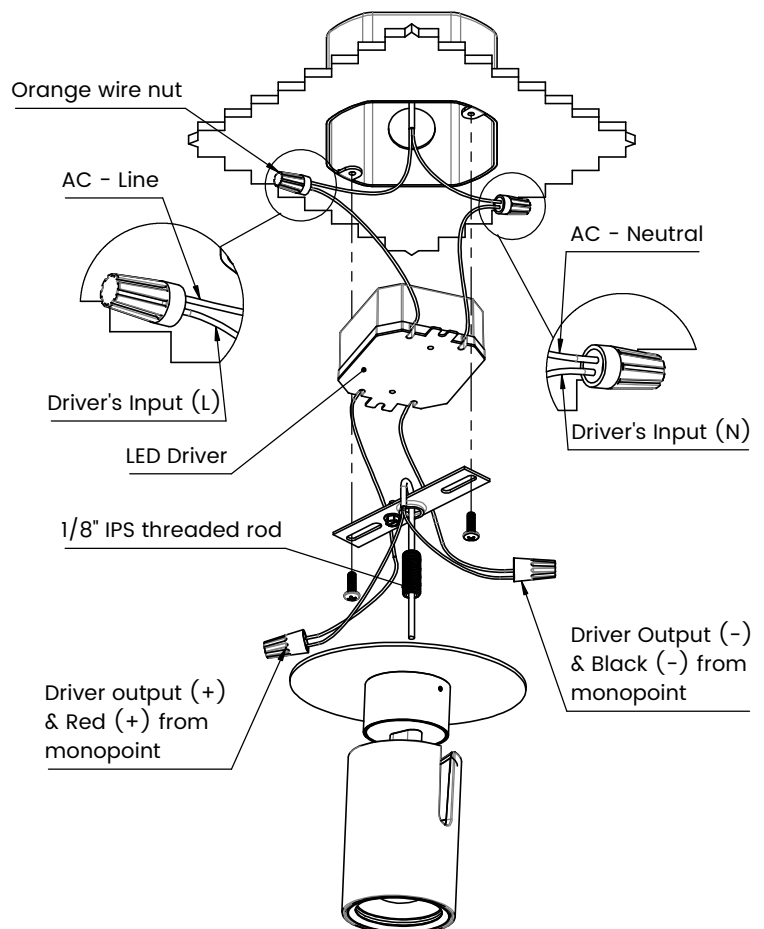

FIGURE 10
- A. Make wiring connections (SEE FIGURE 10 BELOW).